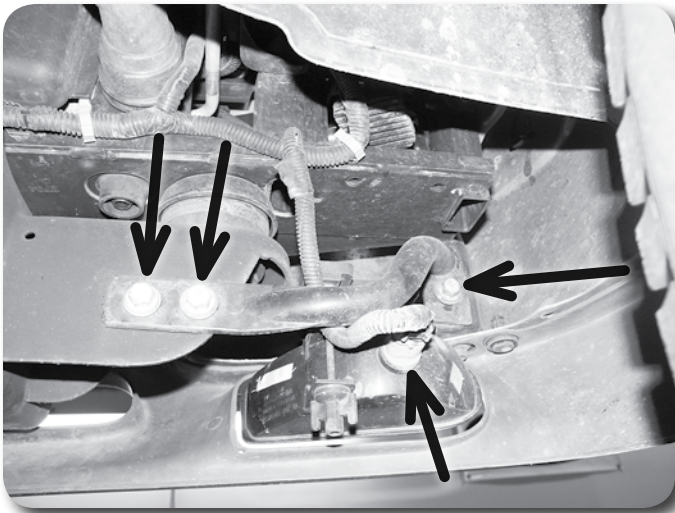

Figure 8
11. If equipped, disconnect the fog light wires from the light housings mounted in the front bumper **Figure 8**.
12. Remove the bolt (on each side) mounting the outside bumper support to the bumper. Remove the bolts mounting the support to the frame and remove the support **Figure 8**. Save the supports and hardware.